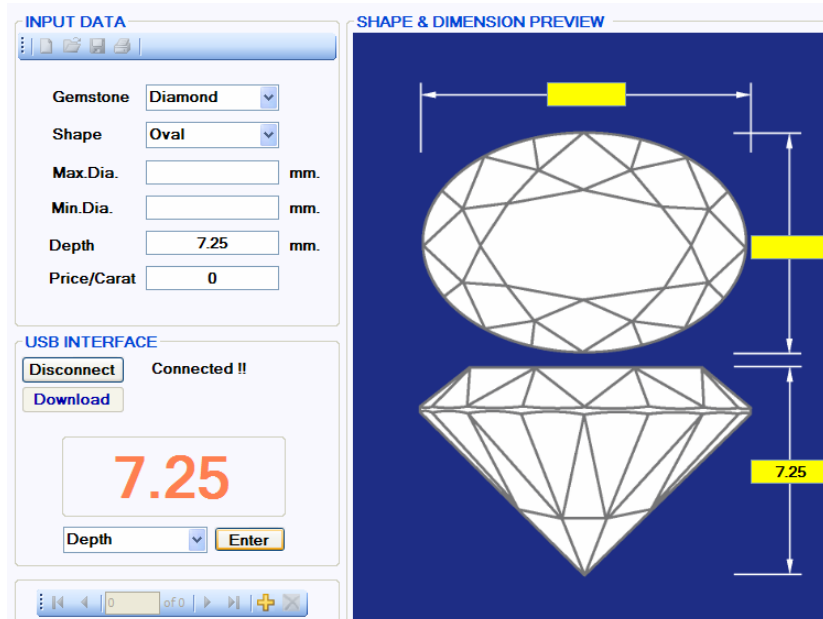

Figure 2.8
5. After pressing “Enter”, the value will be displayed in the DATA INPUT and SHAPE & DIMENSION PREVIEW sections. Please refer to Figure 2.8 below.